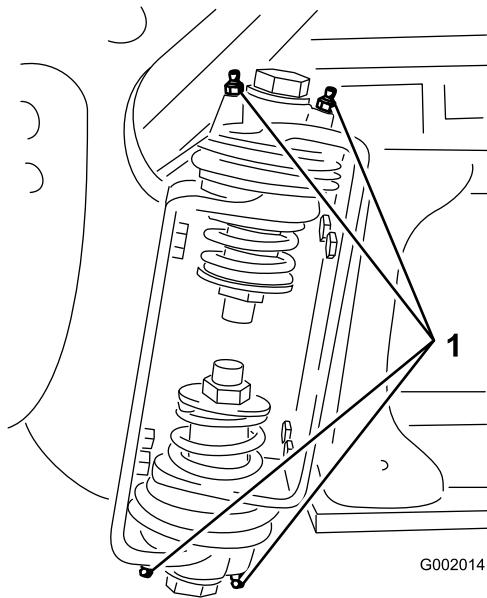

Figure 91
2. Pump grease into the bearing or bushing at each fitting Figure 91.